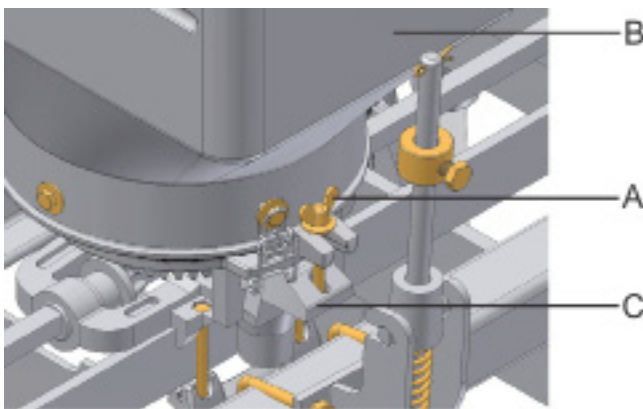
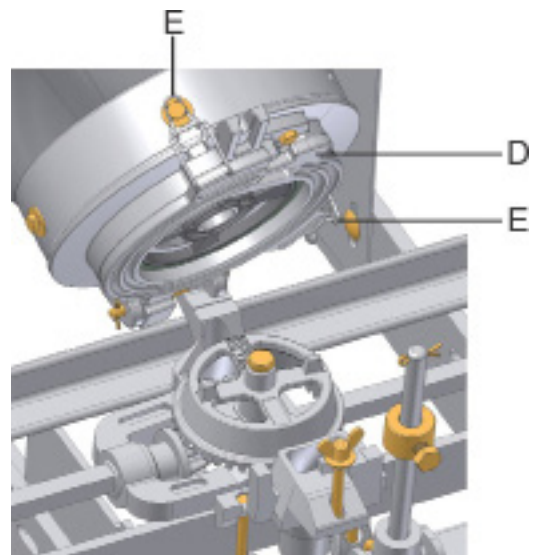

fig. 10
fig. 11
Loose the wing nuts (A) (fig. 10) to check or replace the discs. Move the screw from supporting base (C), turn and lift the reservoir (B), turn the reservoir to the opposite position and loose the plate (D) (fig. 11) through the quick latches (E). After assembling the correct disc, turn the disc with hand to be certain that the disc is turning freely.